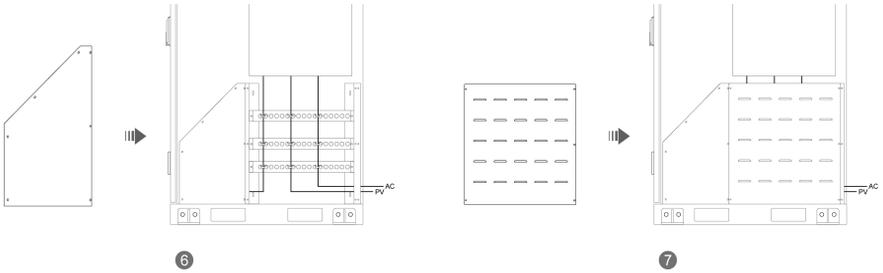

Figure.3
4. Install the part 5 and part 6, and then secure with screws. See the Figure.3.